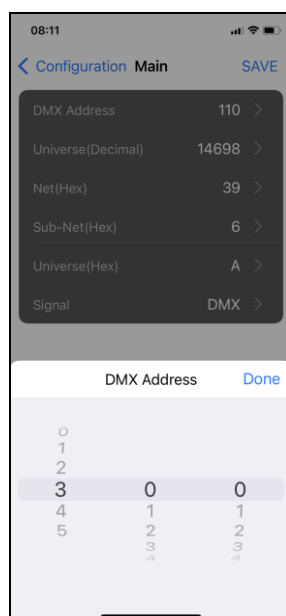

Figure 4
- 2) Change the device parameters such DMX address or User Mode or others (Figure 4, 5):